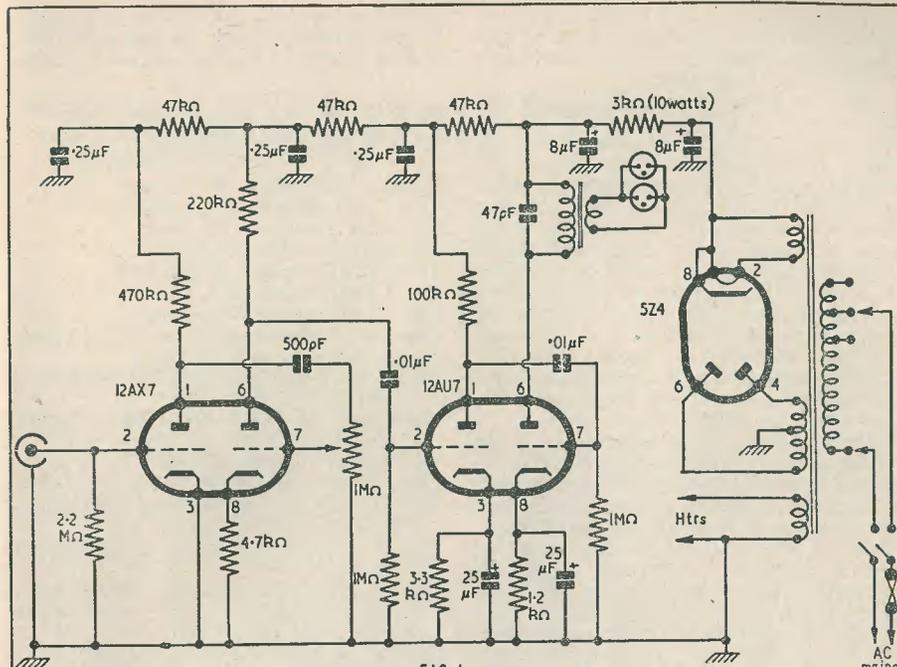

FIG. 1
Accordingly the circuit of Fig. 1 was evolved, and proved very satisfactory. To obtain high gain, no fewer than four cascaded amplifier stages are used, giving an overall maximum gain of over 90 db from input grid to final anode. Despite this high gain, internal noise is negligible. By using double triodes only two miniature valves provide the cascaded stages. A 12AX7 miniature valve gives the two high gain initial stages, with the 12AU7 following acting as a further amplifier and output stage combined. The output half of the 12AU7 gives adequate volume to operate two extension loudspeakers simultaneously; and sufficient on cries to over-ride local noise, while, however, limiting smoothly so as not to be deafening. Such an arrangement is extremely economical of space, and also has a very moderate current consumption, enabling a small mains transformer to be used. The first R-C coupling is designed with a short time constant, so as to attenuate the lower frequencies (eliminating l.f. rumble noises common with some baby alarm
As shown in Fig. 1, a two-way single-pole switch is used to isolate the supply while the condenser is secured to the test terminals, and for convenience in testing. The best way of illustrating the method is to give a typical case. Suppose we wish to test a 0.1 μF 350V working condenser for insulation. The switch is set in the "off" position and the condenser is secured to the test terminals. 350V d.c. are obtained from any suitable source, i.e. broadcast receiver or any power pack, by means of flying leads. A suitable meter (not more than 1mA f.s.d. and preferably less) is set to cover the output voltage of the power supply and jacked into the sockets of the unit. The switch is now set to "Read" and the voltage of the supply (V_s) is shown on the meter. This is noted, and the switch turned to "Test." This places the condenser in series with the meter across the d.c. supply, and the voltage on the meter (V_m) is again noted together with the current (I) passing through the meter.
Fig. 1 shows a standard simple crystal set in two forms. The circuit, shown alongside the point-to-point wiring diagram, is simplicity itself and requires but little explanation. The tuning condenser should be of the variable mica dielectric type, these being more compact than the normal air-spaced types, and serving admirably in crystal sets. The germanium diode specified is the Brimar GD4 but others, such as the OA70, OA71, GEX44, GEX55, GEC45, IN34, BTHCG1, or the Westinghouse WG7A, B or C, serve equally as well. It is merely a matter of preference as to which is actually used. All of these types have a very low forward resistance, a few hundred ohms only, while their reverse resistance is high. The headphones should be of the high impedance type—4,000 Ω if possible. The whole unit could easily be included in a small metal box where connection to an aerial of about 25 feet in length and an efficient earth would produce stations with comparative ease. A two-ounce tobacco tin is ideal for this purpose.